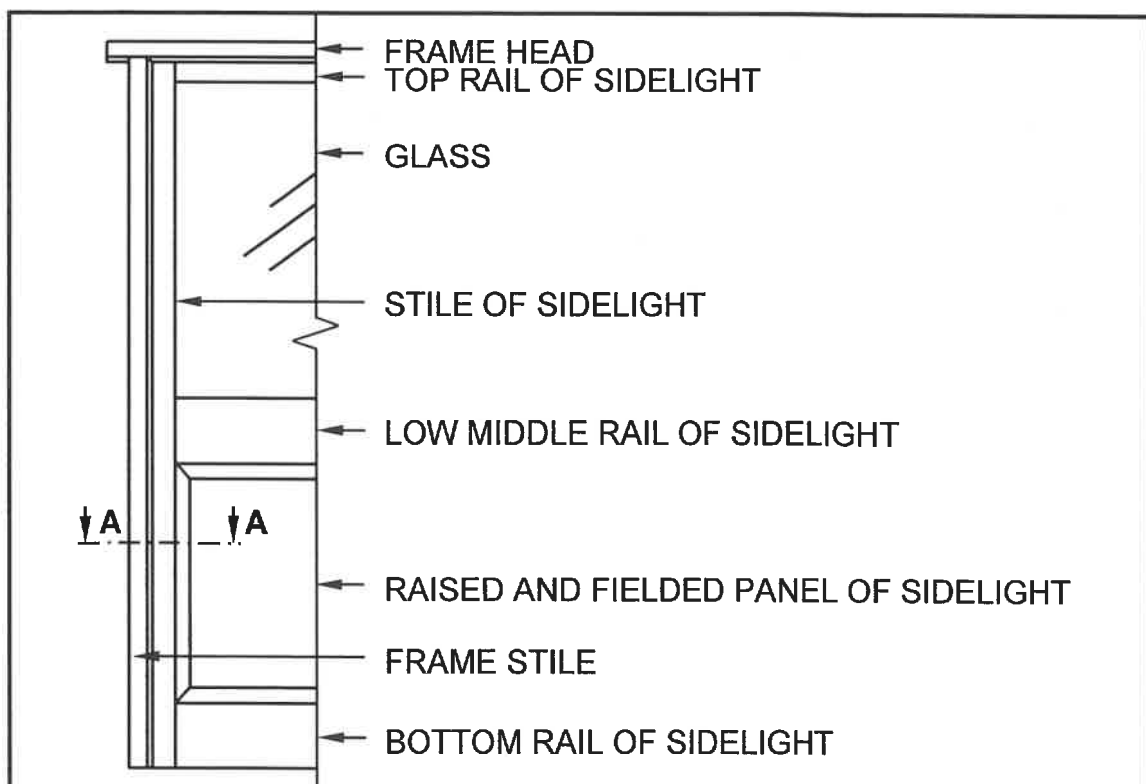

FIGURE 6.6
- Prevention of termites and moisture (10)
6.6 FIGURE 6.6 below shows a part of the front elevation of an entrance door with a fixed sidelight fitted in a door frame.